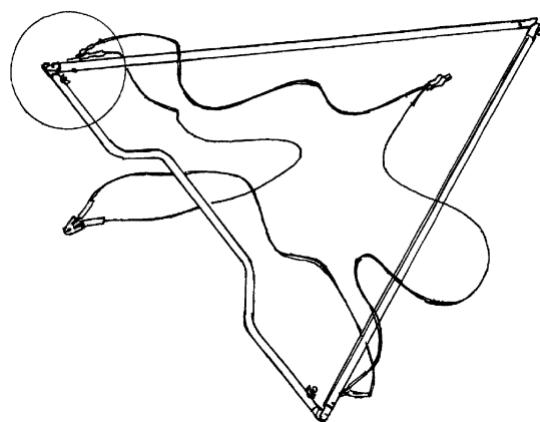

Fig. 2
2.1.4. Remove protective bag from the bottom of uprights. Spread the uprights. Install the speedbar so that offset of the speedbar is directed forward and upwards to the flight direction (in the same direction as bottom front wires with the hook). (Fig. 2).